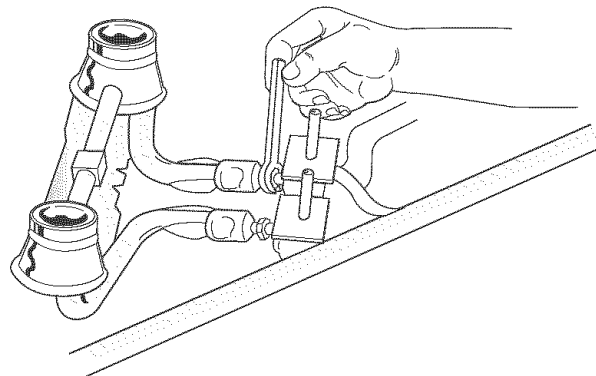

Figure 8
B. Burner Valves Conversion (see figure 8 and 9)